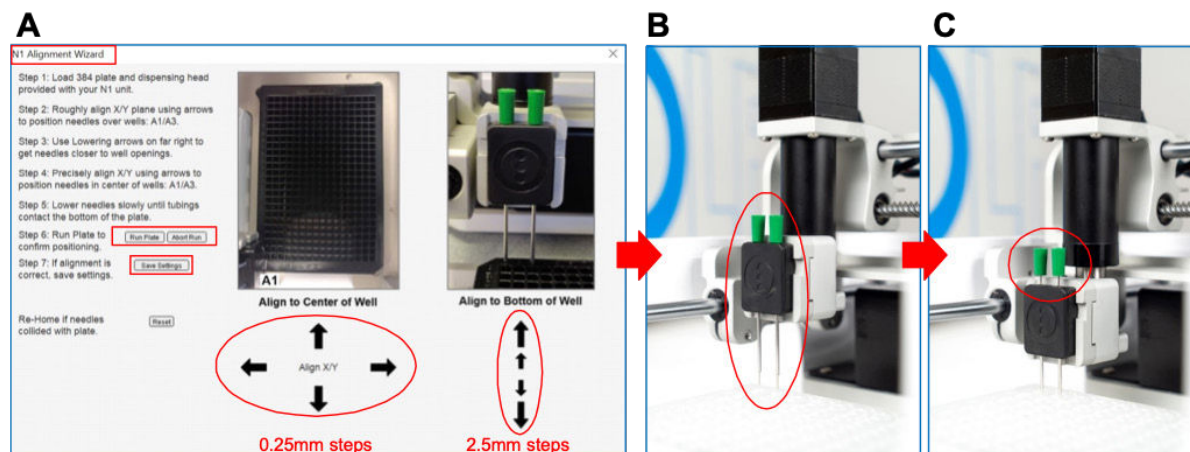

Figure 64. Steps in the single-cell sorting process.
4. Place the N1 Alignment Tool provided in the installation kit on the N1 dispensing arm (Fig. 64 B).
5. Align the needles in the X/Y plane to the A1/A3 wells on the plate using the arrows under "Align to Center of Well" (Fig. 64 C).
6. Use arrows under "Align to Bottom of Wells" to get needles closer to the well for easier alignment (Fig. 64 A).
7. Once the needles are precisely positioned at the center of the wells, begin the Z-plane alignment (Fig. 64 B).
8. Move the needles down clicking the big arrows (2.5 mm steps). Once the tubing that comes out of the needles is close to the bottom, click the small arrows (0.25 mm steps) until it contacts the bottom of the plate **and the bumpers move up slightly** (Fig. 64 C).